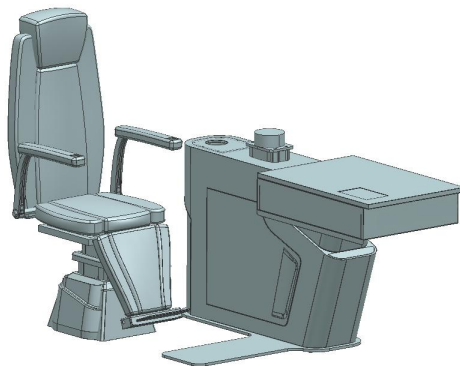

Figure 2
⑤The installation of the chair: The two sets of holes in the chair and the chair frame correspond one by one, Secure with screws; (see Figure 2)